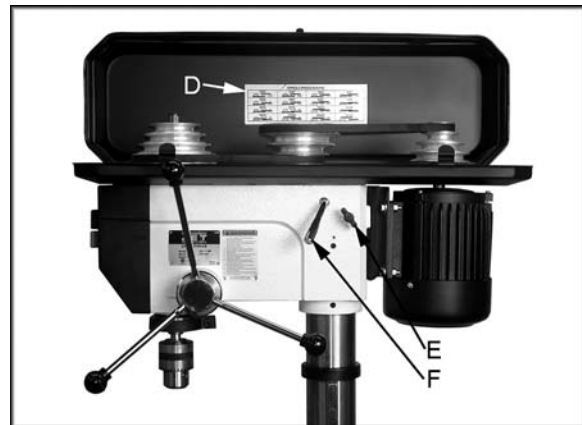
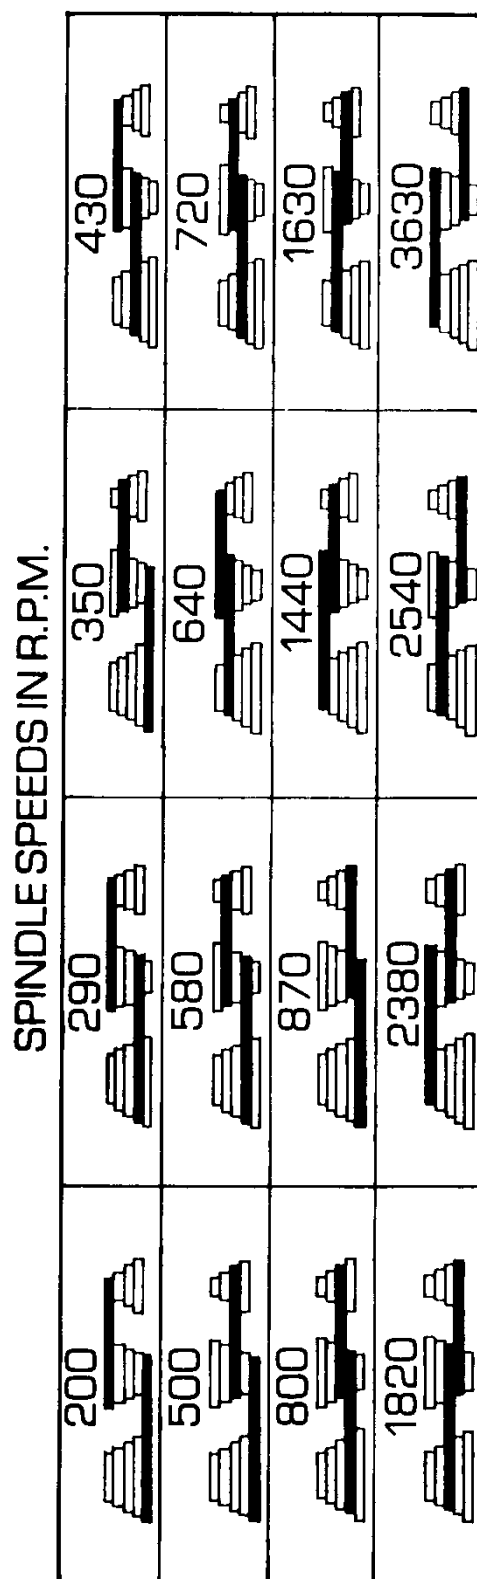

Figure 8
Figure 11
A spindle speed and belt arrangement chart are found on the inside of the belt cover (D, Figure 8). Refer to this chart whenever changing speeds. (A similar chart is shown in Figure 11.)
2. Loosen two bar knobs (E, Figure 8) found on each side of the head assembly.
3. Rotate the tension adjuster (F, Figure 8) to bring the motor base as close to the head as possible.
5. Rotate the tension adjuster (F, Figure 8) to tension the belts.
6. Tighten two bar knobs (E, Figure 8). Belts are properly tensioned when finger and thumb pressure midway between the two pulleys causes approximately 1/2" deflection.